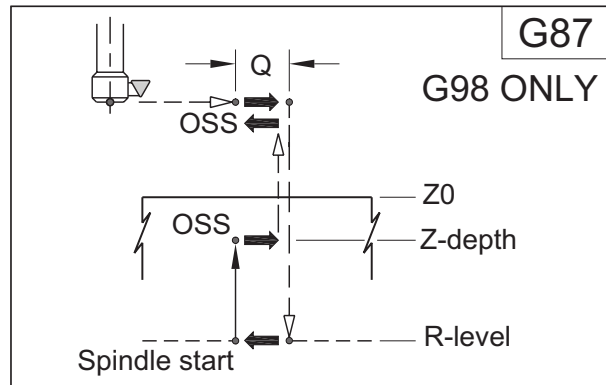

Figure 25-16
**WHEN TO USE G87 CYCLE - Figure 25-16 :**